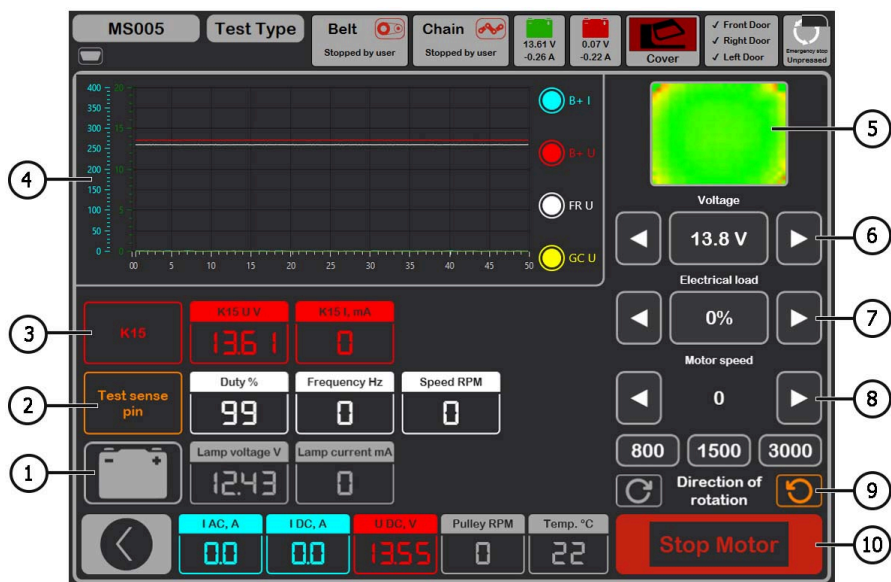

Figure 23. Alternator Test Mode Menu
During the diagnostic mode of any type of alternator, the following information may be displayed on the screen (see Figure 23):
5.2. If the alternator is equipped with a charge warning lamp indicator (alternators with terminal L (D+, I, IL, or 61)), the charge warning lamp indicator must illuminate (see item 1, Fig. 23).